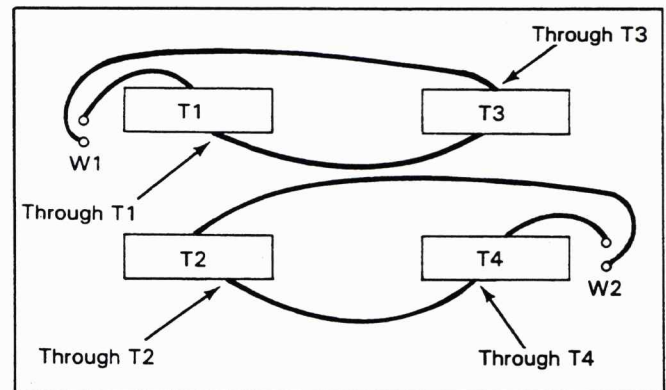

Figure 8-A1-7. Pulse Transformer Wiring for Normal Operation
o. If any signatures are wrong, try replacing U34. If the signatures are good, troubleshoot the keyboard, display, or timer circuitry. Go to paragraphs 8-A1-40, 8-A1-53, or 8-A1-74 for the keyboard, display, or timer/pacer circuitry, respectively. Once the previous tests have been performed, turn the 3497A off and return the pulse transformer wiring for normal operation, as shown in Figure 8-A1-7.
- c. Refer to Figure 8-A1-6. Locate transformers T1 through T4 and reconfigure the transformer wiring, as shown in the figure.